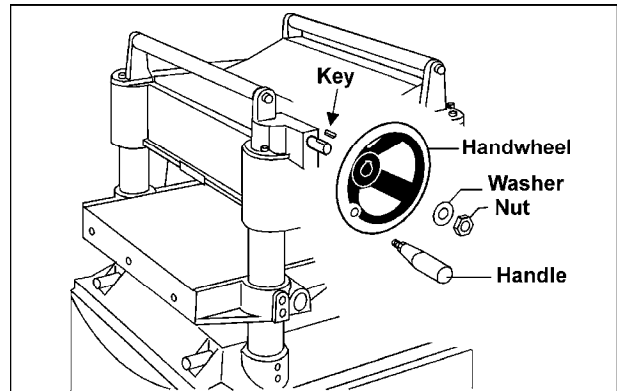

Fig. 5
1. Remove the nut and washer from the gearbox shaft, and place the handwheel onto the shaft (Fig. 5), making sure it is oriented so the handwheel slips over the key.